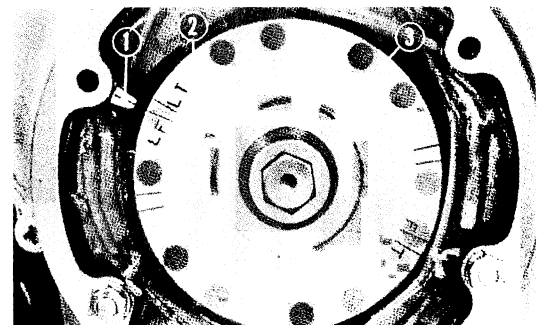

Fig. 21-18 Timing marks, showing (1) stator index, (2) RF mark, and (3) generator rotor (American Honda Motor Company)
2. Alignment of timing marks on alternator rotor and stator (Fig. 21-18).